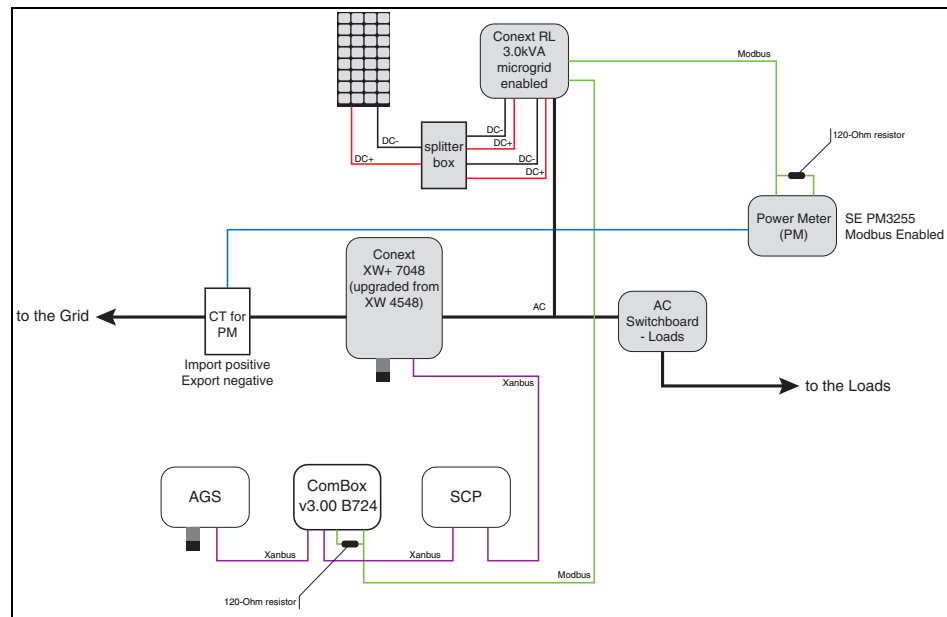

Figure 3-2 Wiring Illustration
1. The PM must be wired in a way so that the power import from the grid is taken as positive and the power export to grid is taken as negative. See Figure 3-2, “Wiring Illustration” on page 3–32.